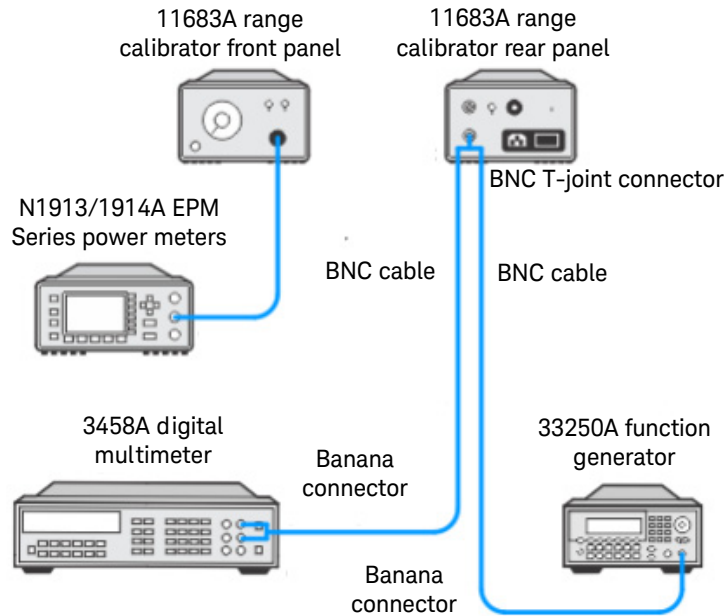

Figure 2-5 Absolute accuracy test setup
- 1 Connect the equipment as shown in Figure 2-5.